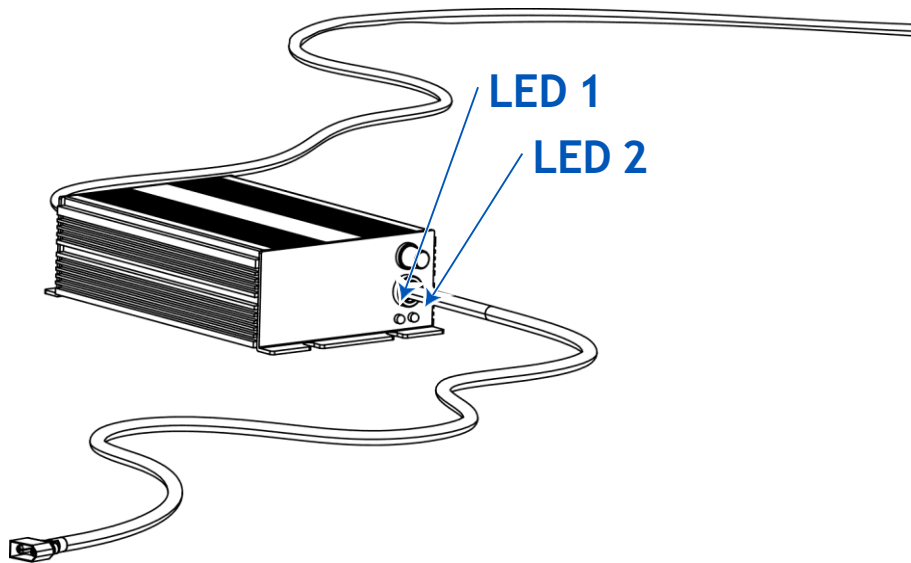

Fig. 35
1. The charger cable must be plugged into the household mains (Figure 34a). At this point, LED 1 on the charger will be red and LED 2 will be green (Figure 35).